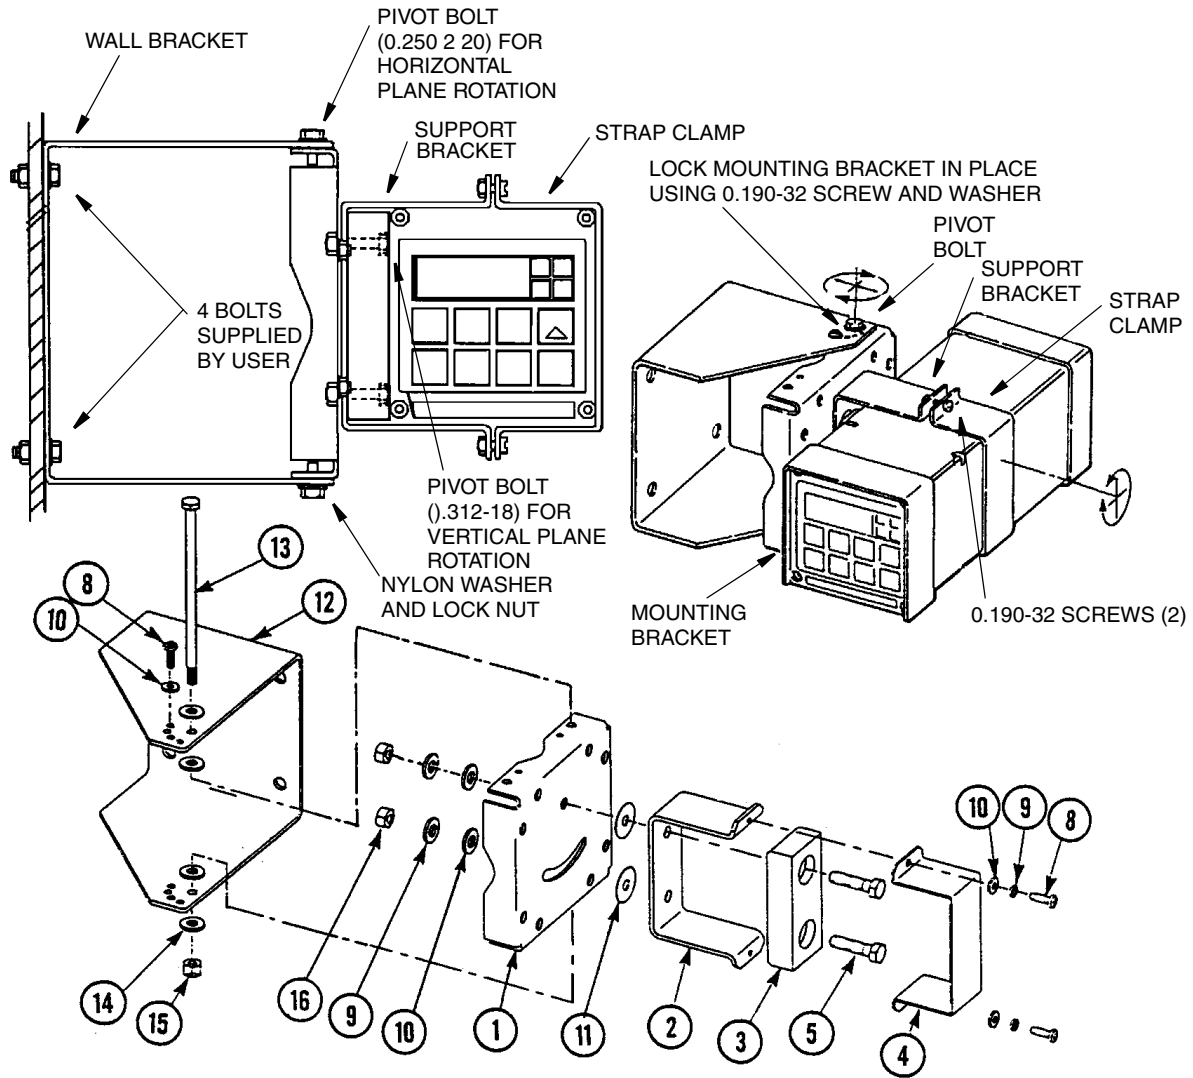

Figure 8. Metal Enclosure - Movable Mount
2. Referring to Figure 8, use wall bracket (12) as template for drilling four holes into mounting surface. Notice that the holes in the wall bracket are 9.53 mm (0.375 in) in diameter.
3. Attach wall bracket (12) to surface using four bolts, washers, and nuts.
- a. Place hex bolts (5) through spacer (3) into support bracket (2).
- b. Slide nylon washers (11) over bolts (5).
- c. Slide bolts through universal mounting bracket (1) and fasten assembly finger tight with hardware designated 9, 10, and 16.
5. Slide Analyzer into support bracket and slide strap clamp (4) onto Analyzer. Using two screws, nuts, and washers, attach strap clamp to support bracket to secure Analyzer.
6. Lift entire assembly of Step 5, align mounting bracket and wall bracket pivot bolt holes, and then insert pivot bolt (13) through wall and mounting bracket into nylon washers and locking nut.